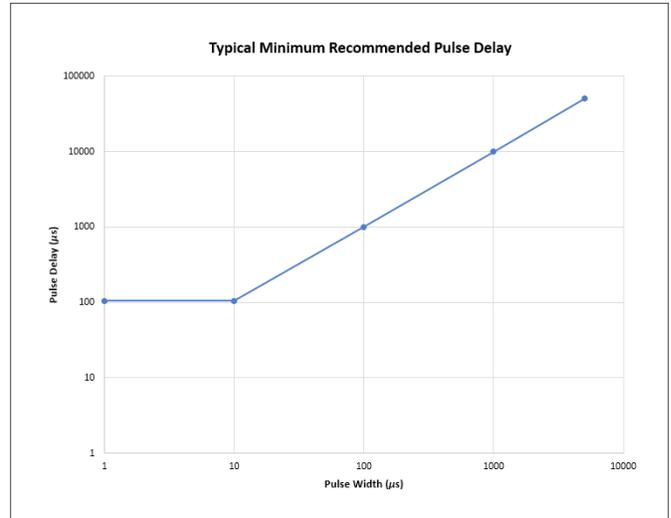

FIGURE 4
- Valid for continuous pulse mode only. For all other modes, as the pulse width becomes large relative to the pulse delay, the actual pulse delay may be longer than the programmed pulse delay due to time required for measurement processing. Typical minimum pulse delay settings for a given pulse width can be seen in the graph in **Figure 4**.
**Brazil** +55 (11) 3759 7627